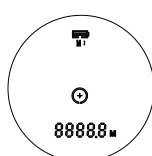

Figure 8
**1) M1 Mode:** Short press the power button after targeting, the slant distance displays on the bottom. (as figure 8)